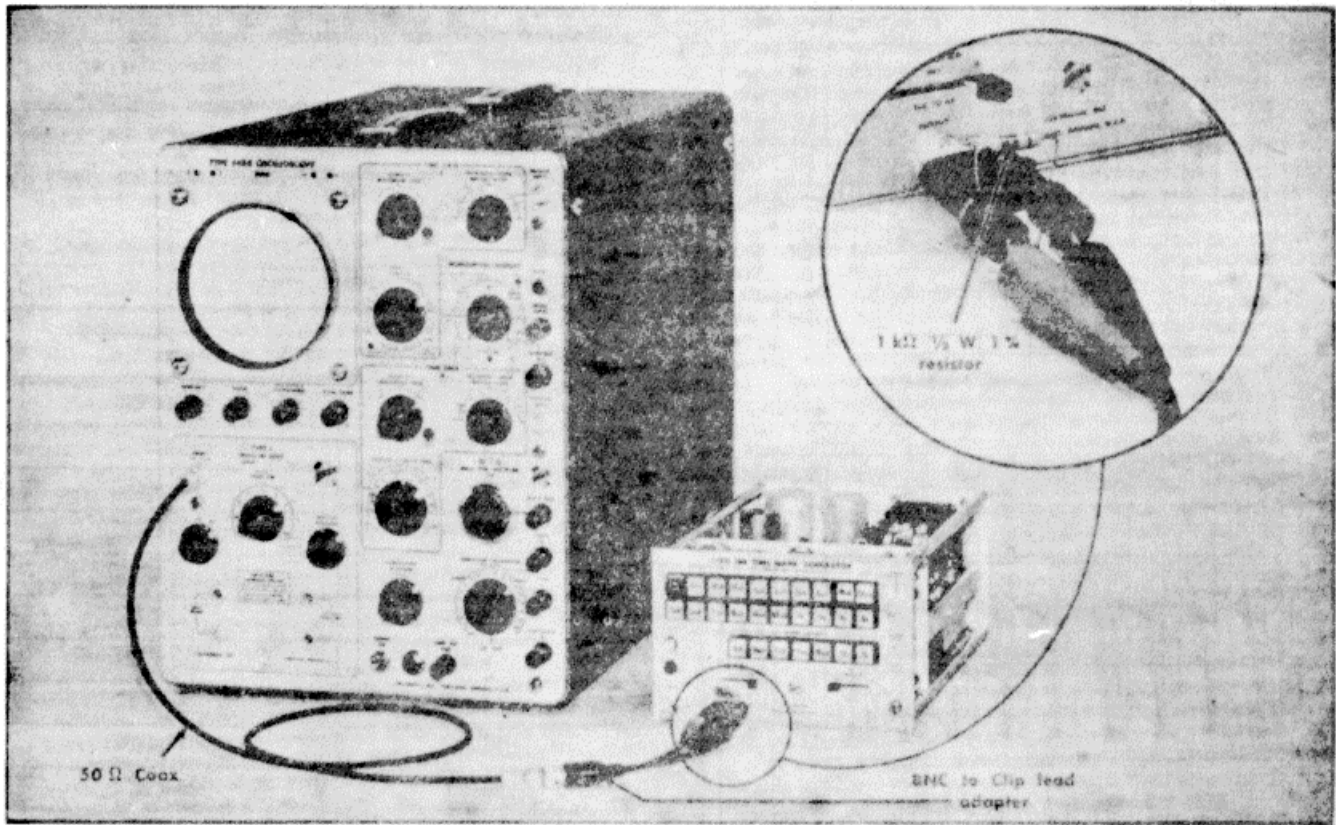

Fig. 6-13. Test equipment setup to measure Marker Amplifier signal amplitude. Step 8.
- b. The Marker Amplifier must be terminated into a resistance of 1kΩ. Test equipment setup is shown in Fig. 6-13.